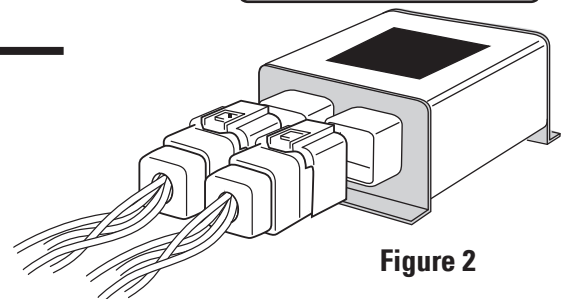

Figure 2
1. Locate the product identification. This is located on the top surface of the unit. See FIGURE 2.